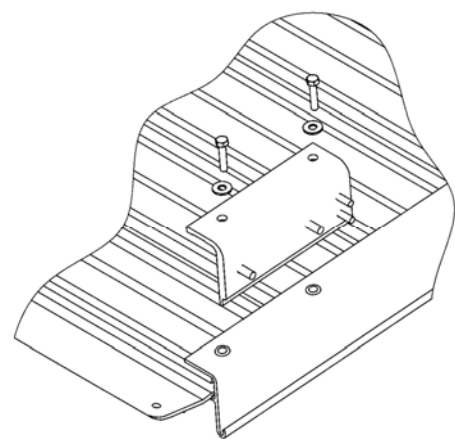

FIG. 39
- NOTE:** There is a left and right top support bracket. The two 3/8" studs aligned horizontally should be toward the end of the ramp (FIG. 39).